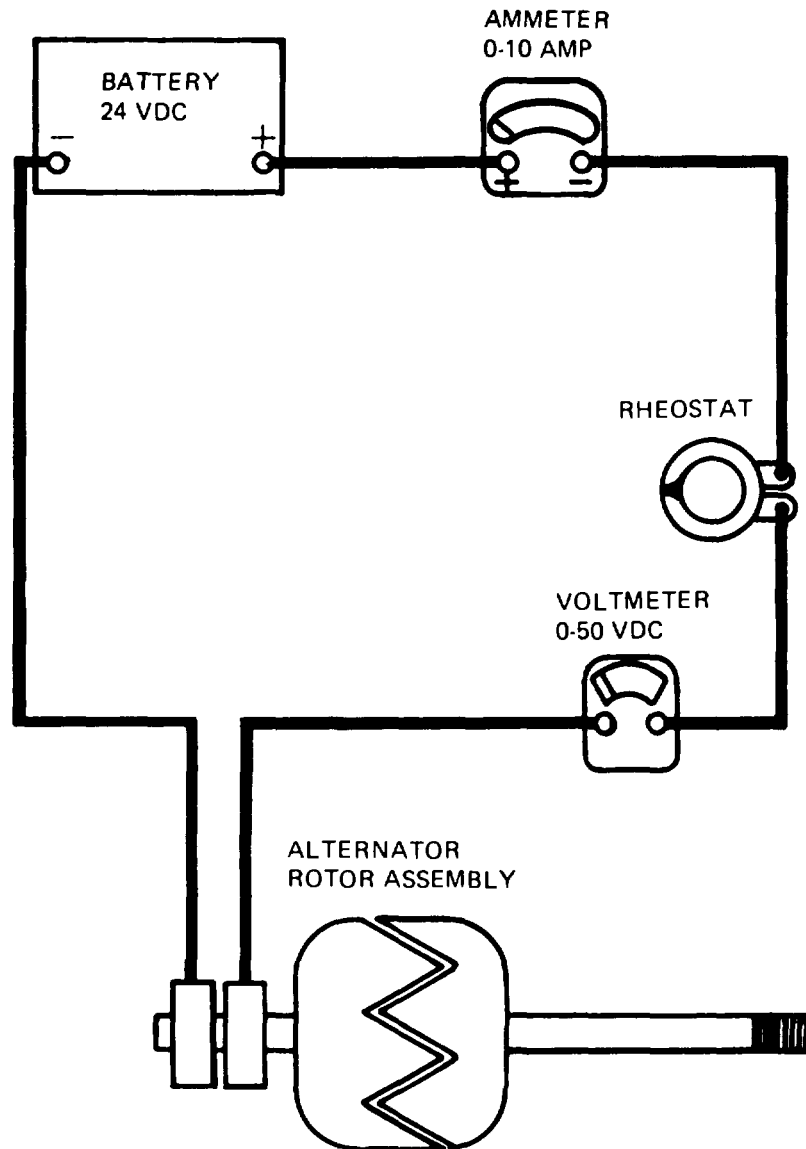

Figure 3-6. Rotor Assembly Current Draw Test Circuit
- (7) Using an ohmmeter, check continuity of each phase of stator assembly. Replace stator assembly if ohmmeter indicates open circuit of one or more phase.
- (8) Visually inspect rotor assembly for rub marks and burns or other evidence of shorting. Inspect shaft for worn key slot and bearing surfaces.
- (9) Test rotor assembly as follows:
- (a) Install rotor assembly in test setup shown in figure 3-6.
- (10) Replace rotor assembly if inspection and test requirements are not met.
- (11) Inspect voltage regulator connector, cover assembly, and voltage adjust for cracks, corrosion, and evidence of shorting or other damage.
- (12) Inspect fuse holder for cracks, corrosion, and other damage. Check fuse for burned out condition. Check fuse for continuity if in doubt.
- (13) Inspect brush assembly for corrosion and excessive wear.
(3) Check alternator total circuit voltage as follows:
- (a) Install alternator in test circuit as shown in figure 3-6.